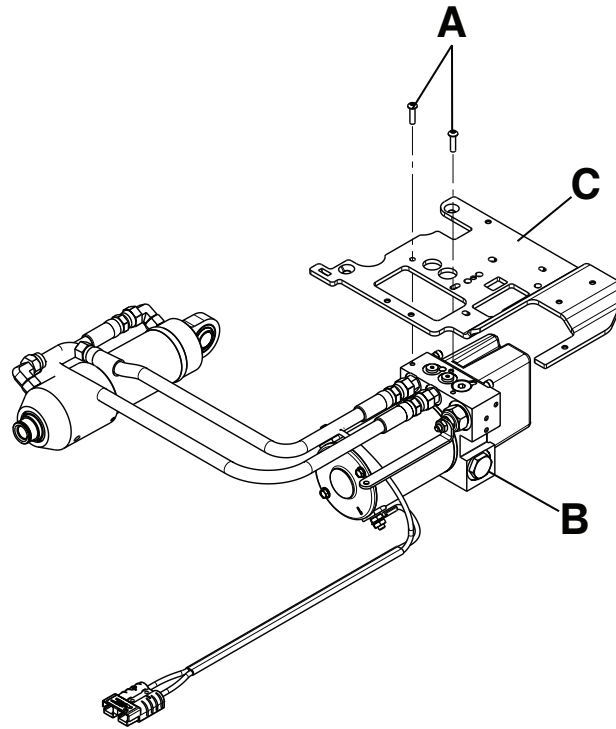

Figure 14: Hydraulics assembly
- Using a T25 Torx driver, remove the two screws (A) that secure the hydraulics assembly (B) to the wing plate, left (C) (Figure 14 on page 49).